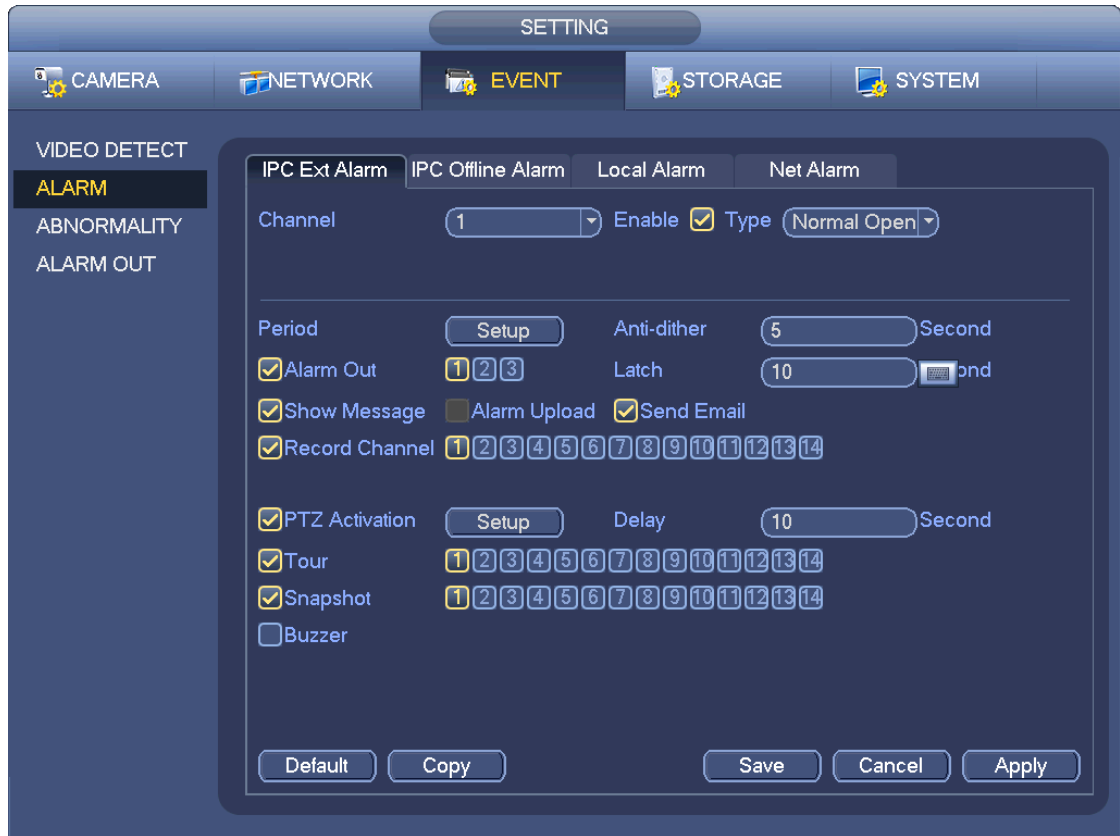

Figure 4-55
In the main menu, from Setting->Event-> Alarm, you can see alarm setup interface. See Figure 4-55.
- c) From Main menu->Setting->Event->Alarm, you can go to Figure 4-55 to set alarm parameter and enable snapshot function.